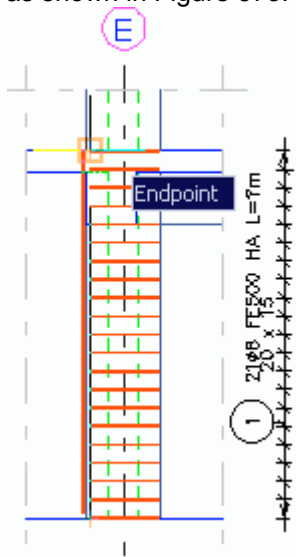

Figure 373: Face elevation 1 - Straight bars
3. Place the bar by specifying two points as shown in Figure 373.